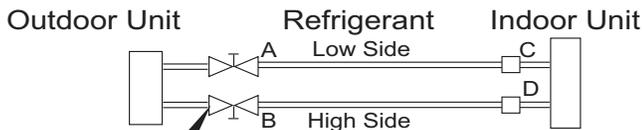

Fig. 8 —Service Valve
3. Fully open the low side of manifold gage (see Fig. 8).